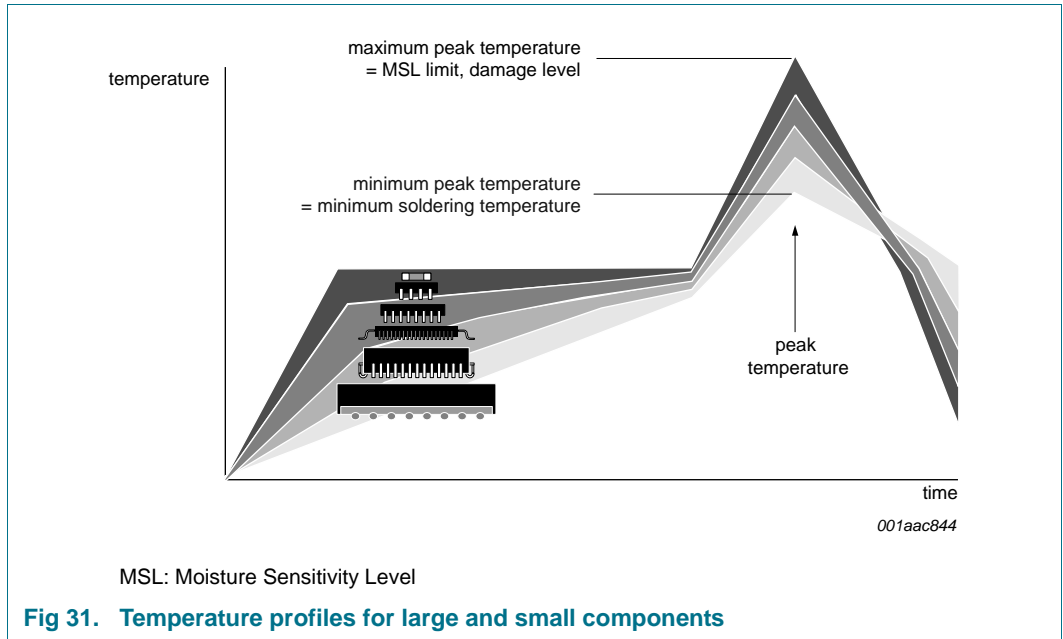

Fig 31. Temperature profiles for large and small components
- Lead-free versus SnPb soldering; note that a lead-free reflow process usually leads to higher minimum peak temperatures (see Figure 31) than a SnPb process, thus reducing the process window
Studies have shown that small packages reach higher temperatures during reflow soldering, see Figure 31.